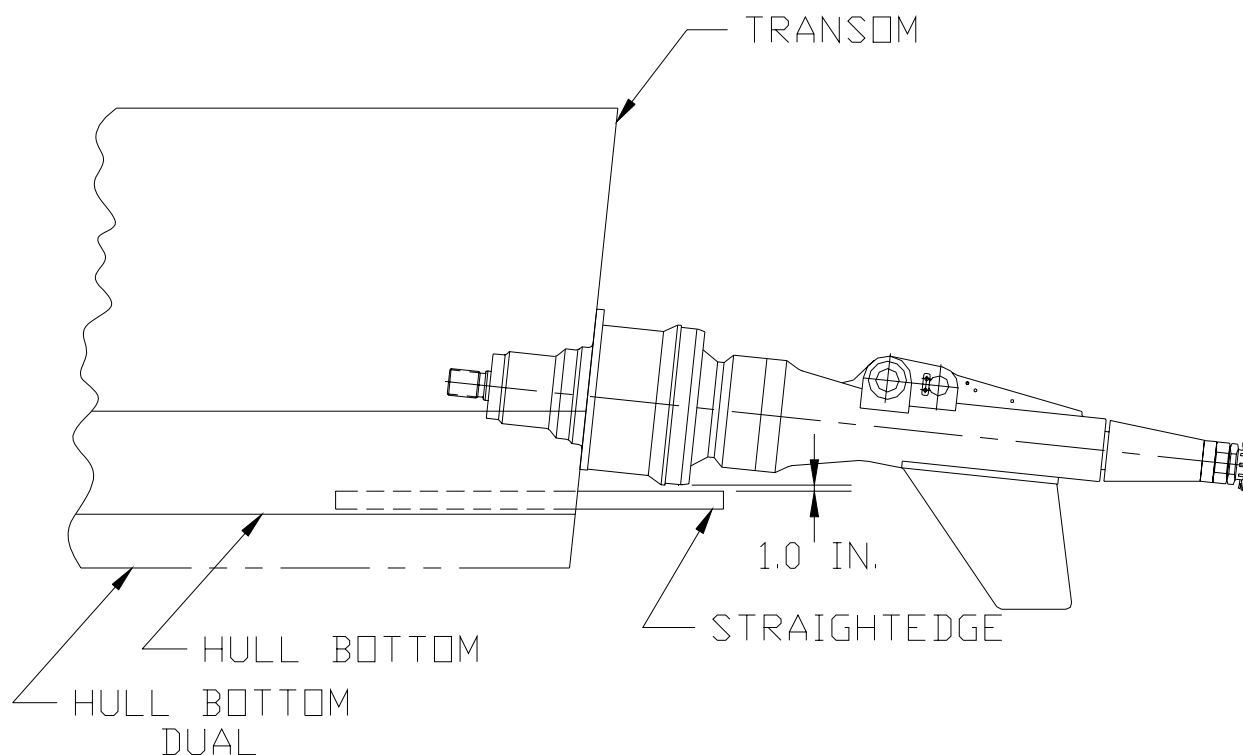

Figure 16. Measure for Clearance
- E. Hold the thrust unit in place and verify 1" clearance* from the edge of the thrust socket to the plane of the vessel's bottom. See Figure 16. Verify that the drive flange hole pattern matches the hole pattern marked on the transom from Template 1020306.